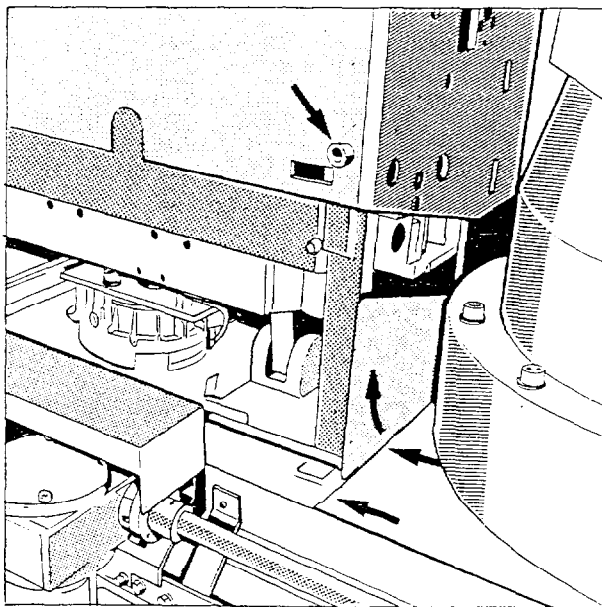

Fig. 14
- Remove the red transport safety device (↗/Fig.14) for table height fixation; for better accessibility to the fastening screws, press down the connecting rod in front.